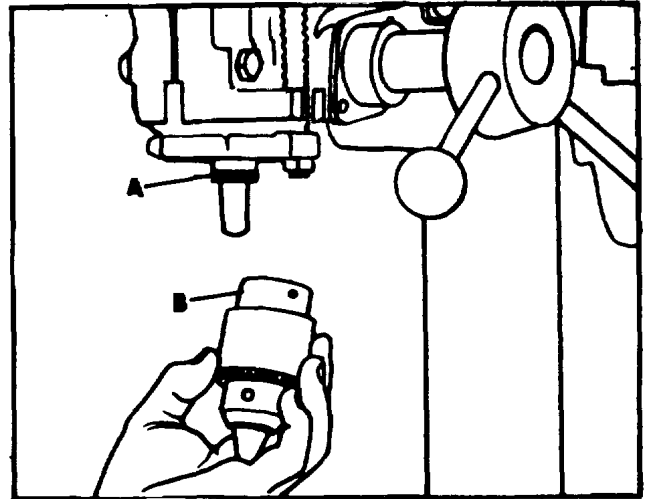
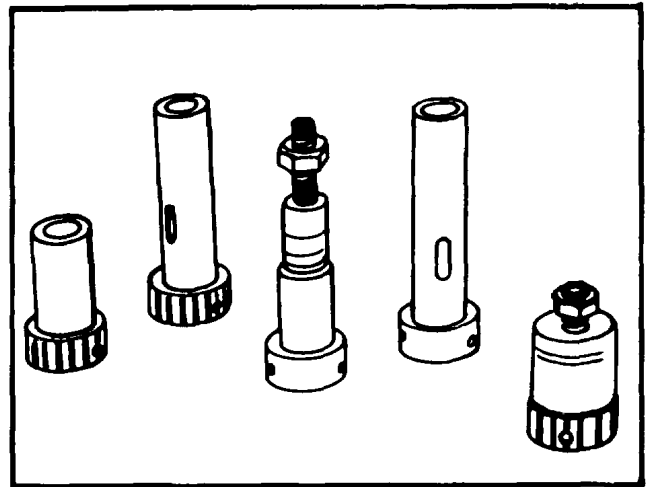

Figure 10. Lower Spindle Assembly and Drill Chuck
Figure 11. Spindle Adapters
One of the unique features of 17" Key Chuck Drill Presses is that they come equipped with a lower spindle assembly having a 1 1/16" - 20 thread (A) Fig. 10, and the Cat. No. 15-830 Drill Chuck which has a threaded mounting collar (B) Fig. 10. Various spindle adapters, shown in Fig. 11, can also be adapted to the threaded spindle of your 17" key chuck Drill Press. These adapters are available as an accessory.
The spindle adapters, shown in Fig. 11, along with the Cat. No. 15-830 Drill Chuck, shown in Fig. 10, can be used on 17" Taper Drill Presses when the lower spindle cartridge (Part No. 402-07,301-5001 is installed in the drill press instead of the standard #2 Taper Spindle Cartridge.